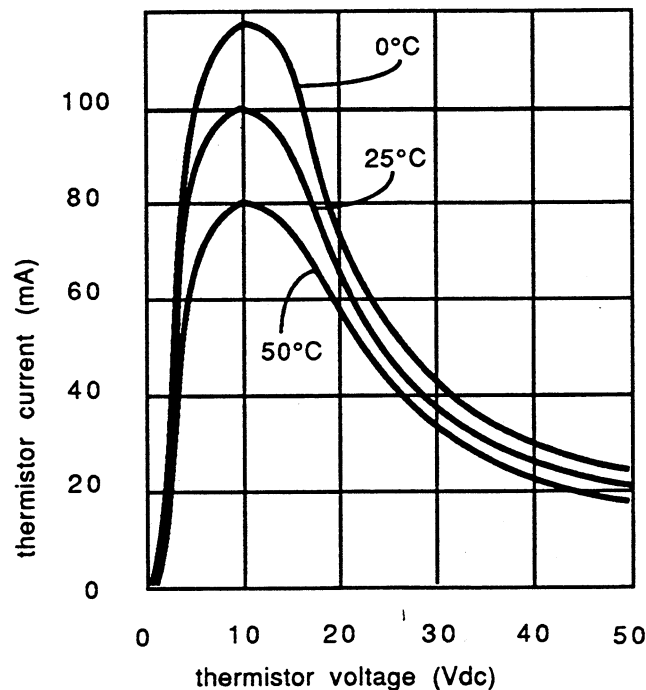

figure 5. Current-limiting curve
- 1.01 This addendum to practice section 817002A, revision C (dated 3 June 1983), is issued to inform customers that short loop station-side applications may cause DLL station current to foldback to a low output current level (less than 100mA). Figure 5, in Section 2, is revised to reflect the effects of changes in ambient temperature on the performance of the foldback current level.
- 2.02 Replace the existing figure 5 with the following new figure 5.